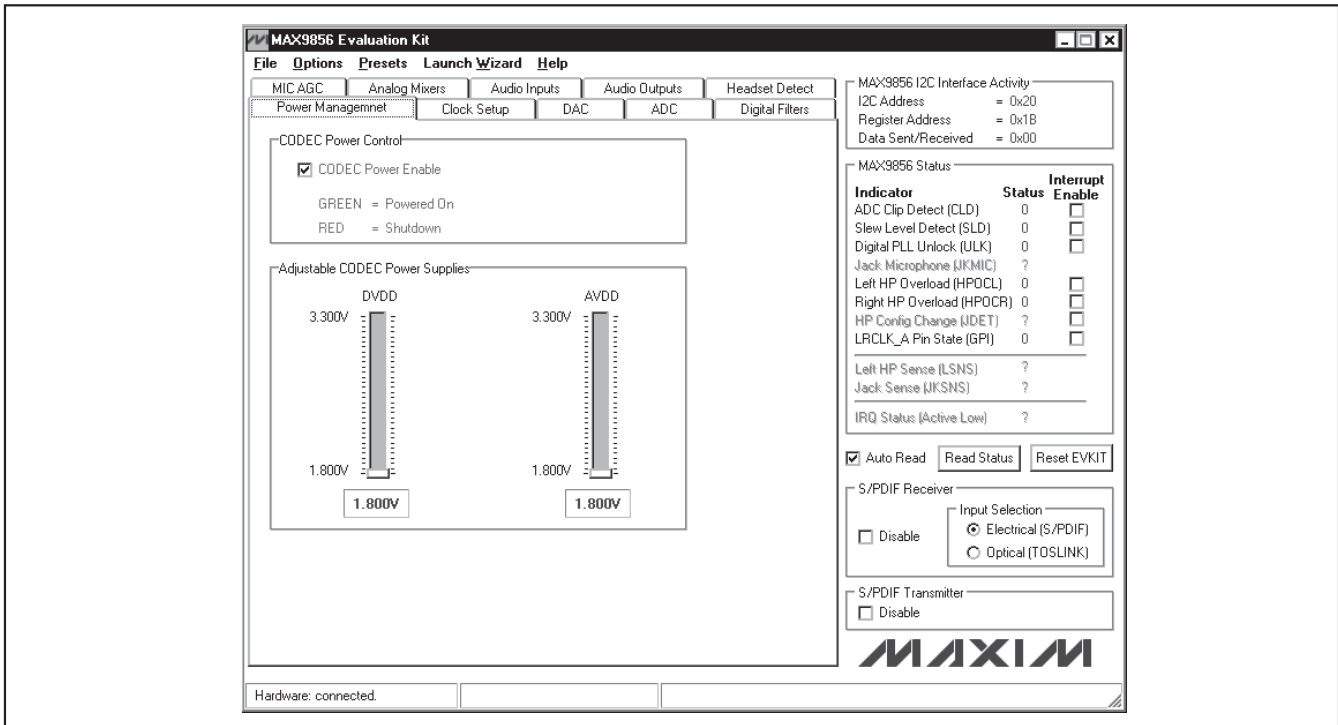

Figure 3. MAX9856 Evaluation Software (Main Window)
- 15) Click the **Finish** button. The software main window appears (Figure 3).
The left-hand side of the main window (Figure 3) includes 10 tabs. On each tab, the user can exercise a group of related configurations. Each control on the GUI generates the expected I2C write operation to update the internal registers of the MAX9856 and other I2C devices on the EV kit.
The **MAX9856 I2C Interface Activity** group box (Figures 3 and 4) indicates the **Register Address** and **Data Sent/Received** to or from the register. Use this data to verify that a proper value is written to or read from the MAX9856. Some operations may include several continuous register read or write, but only the last register read or write operation is displayed.
The current status is reported in the **MAX9856 Status** group box (Figures 3 and 5). Click the **Read Status** button to poll the status of the MAX9856. Check the **Interrupt Enable** checkbox next to the desired indicator to trigger hardware interrupts when the alert condition occurs. If an interrupt is generated, the **IRQ Status (Active Low)** indicator label displays a status "0" in red color.
The **S/PDIF Receiver** group box (Figures 3 and 6) controls the action of the on-board S/PDIF receiver. Check **Disable** to disable the receiver. Select the electrical or optical input by clicking the appropriate radio button.
The **S/PDIF Transmitter** group box (Figure 3) controls the action of the on-board S/PDIF transmitter. Check **Disable** to disable the transmitter. Both electrical and optical outputs are simultaneously available.
Click on the **Presets** menu item shown in Figure 3 to access seven preconfigured operating modes for the EV kit. These presets quickly configure the MAX9856 in the operating mode listed in Table 1. Once a preset has been selected, use the main interface to optimize the settings as desired.
Click on the **Launch Wizard** menu item shown in Figure 3 to launch the setup wizard and let the software configure the EV kit automatically.